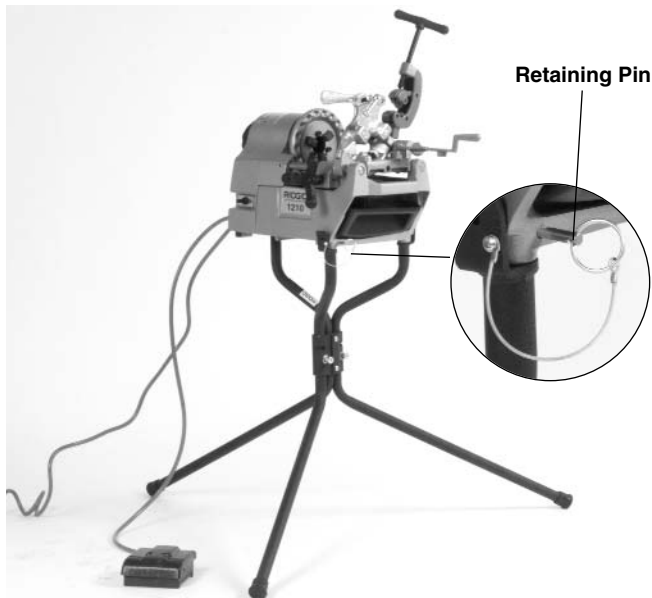

Figure 4 – 1210 Machine Mounted on Model 120 Stand
- Insert the retaining pin into the base of the threading machine (as shown in Figure 4, inset). Retaining pin helps to prevent tipping of the threading machine during use.